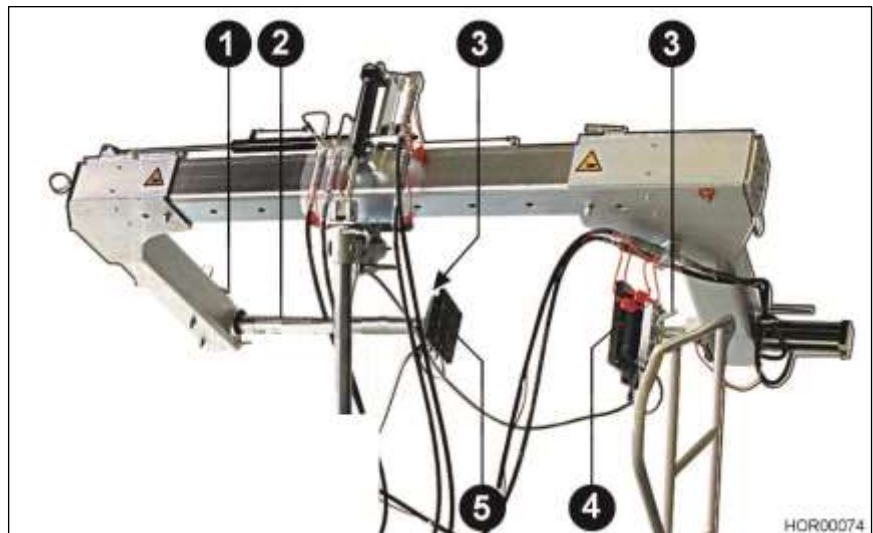

Bild 2 TP EM III Vulcanizing Machine (heating plate)
- Heating plates (Bild 2/4 and 5)
The left frame section is used to attach a hydraulic pressure cylinder (Bild 1/6). The outer heating plate (Bild 2/4) is attached to the pressure cylinder with a retaining bolt (Bild 2/1).
The right frame section is used to attach the inner heating plate (Bild 2/5). The inner heating plate is attached to the right frame section with a heating plate holder (Bild 2/2) and a retaining bolt (Bild 2/1 und 3).